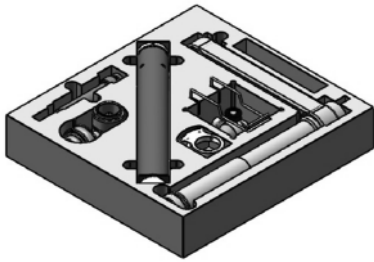

Fig. 1
1. Remove the parts from their packaging (Fig.1)